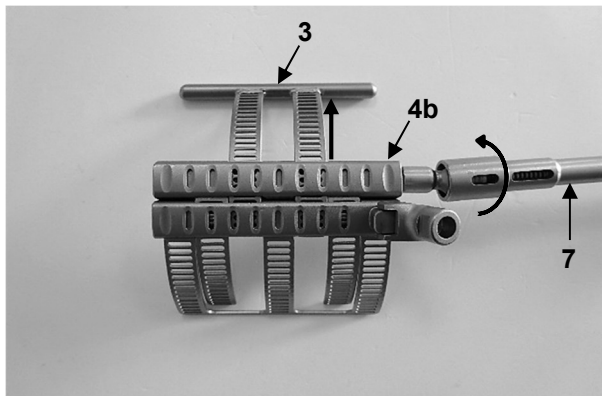
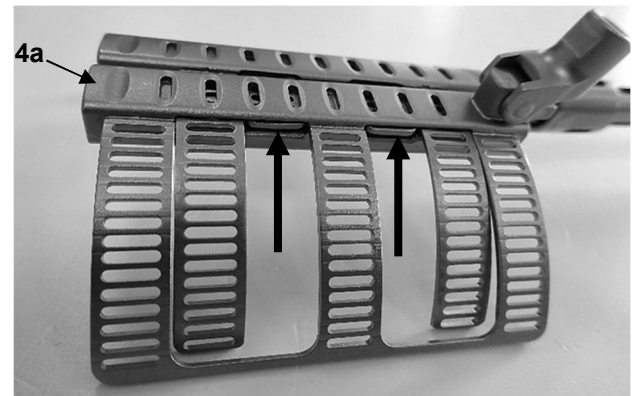

Fig. 2a
Fig. 2b
To do this, turn the outer hexagon screw on the cage module of the primary element (4b) clockwise using the LMT-4 cardan screwdriver (7) (Fig. 2a) until the ends of the rib blades are positioned completely in the cage module of the basic element (4a), as illustrated in Figure 2b.